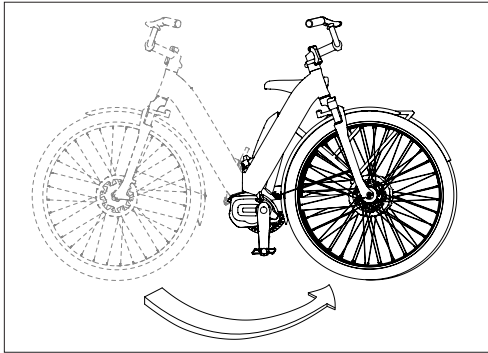

Fig. 32: Fold the bike frame in half.
5. While holding the quick release down, fold the bike in half (Fig. 32, page 36).